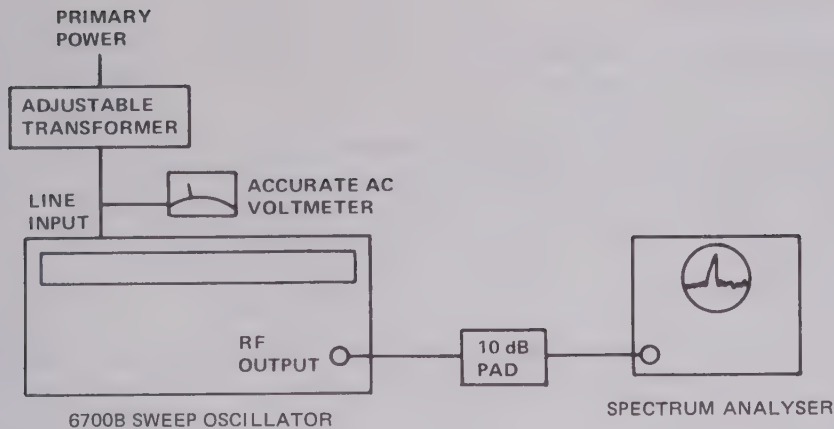

Fig. 4 ΔF vs. $\pm 10\%$ line change test set-up
- (1) Connect equipment as shown in Fig. 4.
- (2) Set type 6700B controls as described in para.7.
- (3) Adjust the a.c. line input over the range 210 to 250 V r.m.s. (or 105 to 125 if applicable). Note the peak-to-peak change in frequency indication. Divide by two.
- (4) The maximum allowable result is given in Table 1, Chap. 1.